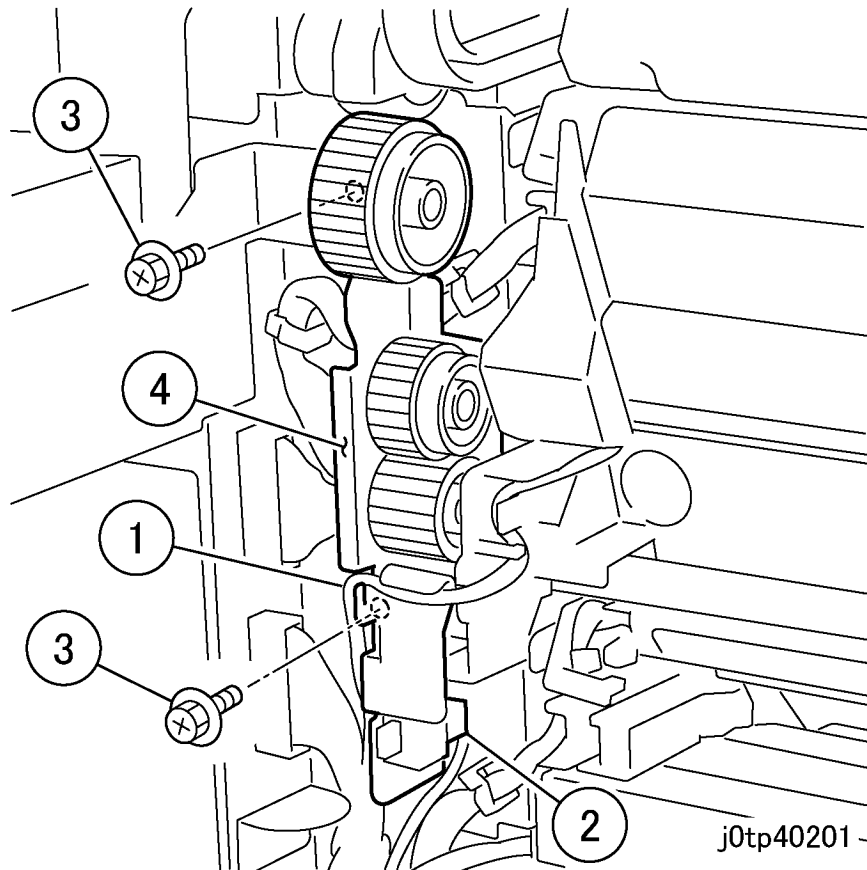

Figure 2 Removing the Gear Assembly (j0tp40201)
5. Remove the Gear Assembly. (Figure 2)